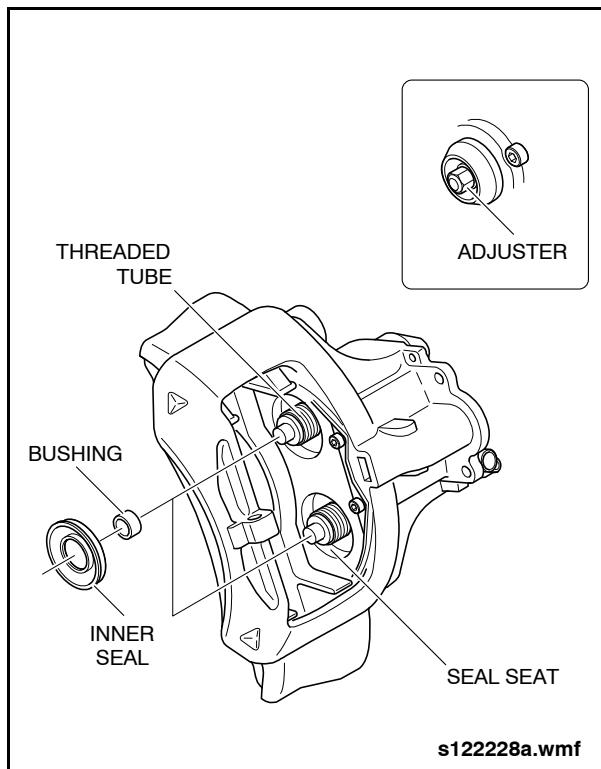

Fig. 1-67: Removing Inner Seal
7. Carefully pry the inner seal out of the seal seat. See "Fig. 1-67: Removing Inner Seal" on page 70.